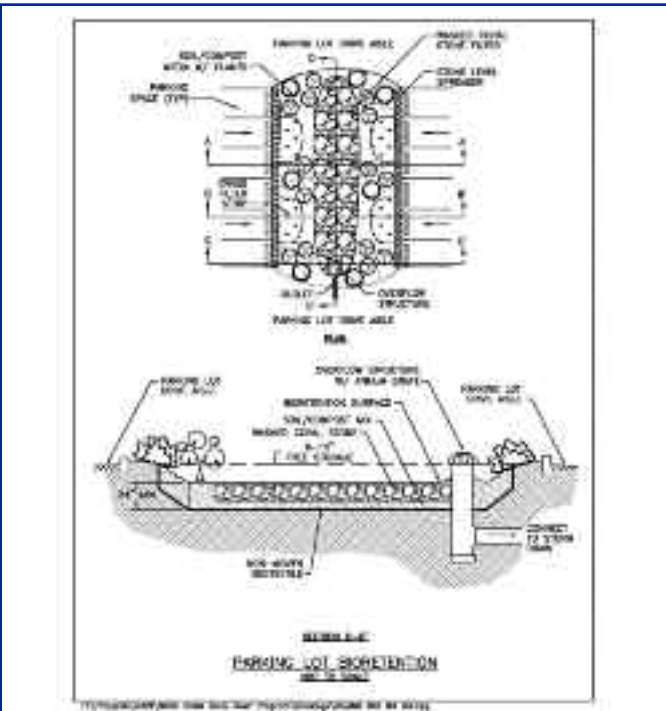

Figure 4. Example of a Plan and Profile for the Island Bioretention Infiltration Design.
There are two basic design adaptations for “Island Bioretention:” (1) **Infiltration Design** – Design without an underdrain for sites where soil testing indicates suitable infiltration rates, relatively low water tables, and a low risk of groundwater contamination (e.g., not located at a stormwater hotspot). Figure 4 provides an example of the standard details; and (2) **Filter Design** – Design with an underdrain for sites where native soils do not percolate as readily (less than 0.5 inch per hour). These designs still incorporate some level of infiltration, especially during the dry season, by providing a stone “sump” below the underdrain pipe.